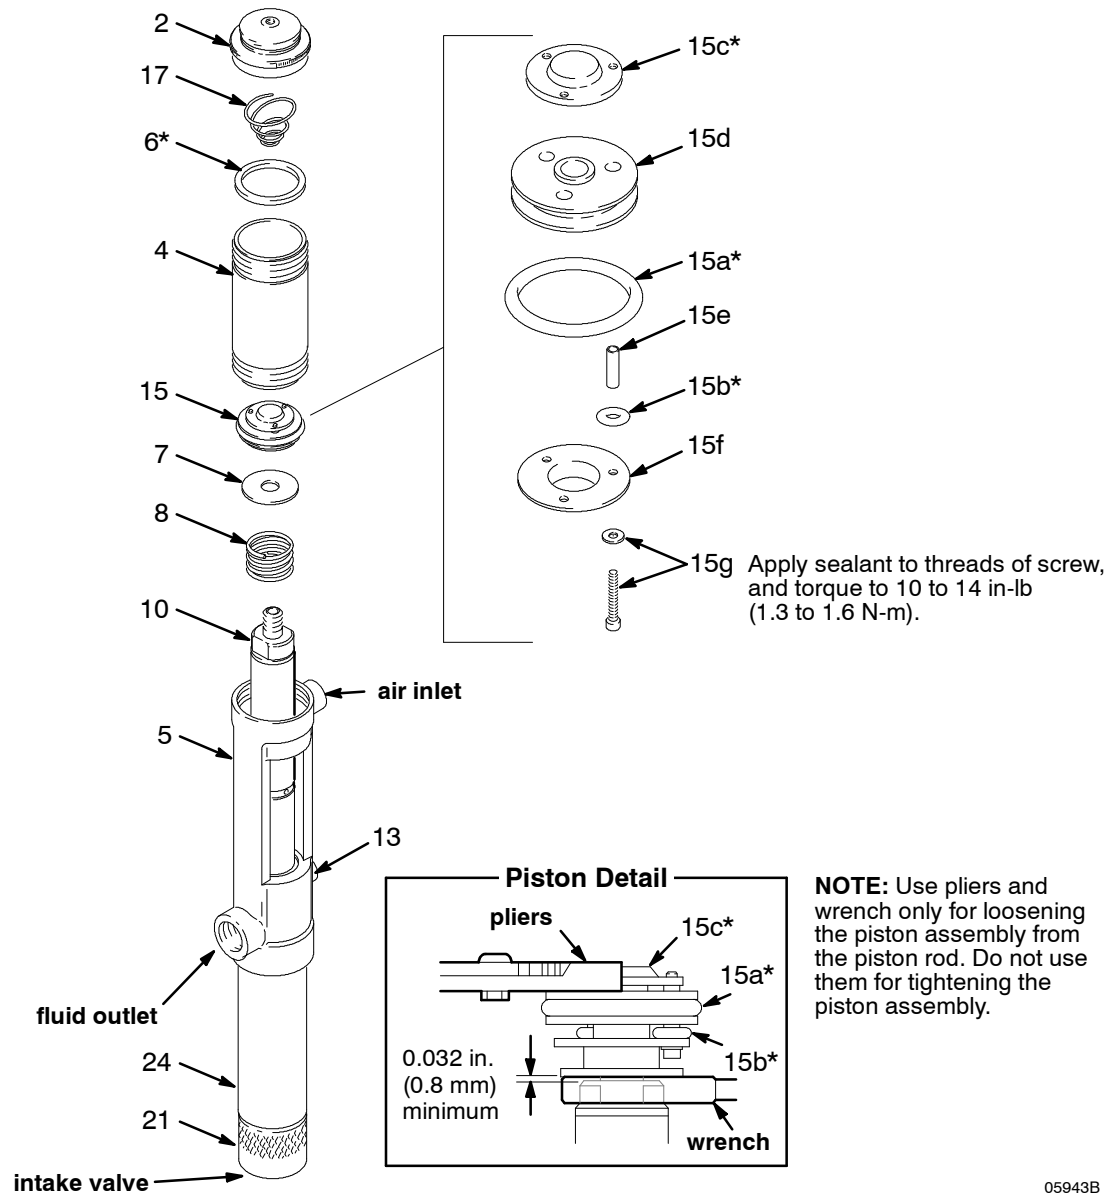

Fig. 3
See Fig. 3.
4. Remove the air cap (2). Gently pry the coils of the spring (17) to remove the spring. Check the spring for wear or damage, and replace as needed.
5. Use a strap wrench to unscrew the air cylinder (4) from the base (5).
6. Unscrew the air piston assembly (15) from the piston rod (10). Use pliers on the air exhaust plate (15c\*) and a wrench on the piston rod. See the **Piston Detail** in Fig. 3.
7. Disassemble the air piston assembly (15). See the **Piston Detail** in Fig. 3. Clean all parts, and inspect them for wear or damage. If any valve plate spacers are damaged, replace all three in order to maintain the correct clearance between the valve plates and seals.
8. Check the spring (8) for wear or damage, and replace as needed.
9. Apply sealant, such as Loctite® green, to the threads of the screws. Assemble the parts as shown in the **Piston Detail** in Fig. 3. Torque the screws to 10 to 14 in-lb (1.3 to 1.6 N-m).
See Fig. 3, and see the **Parts Drawing** on page 13.